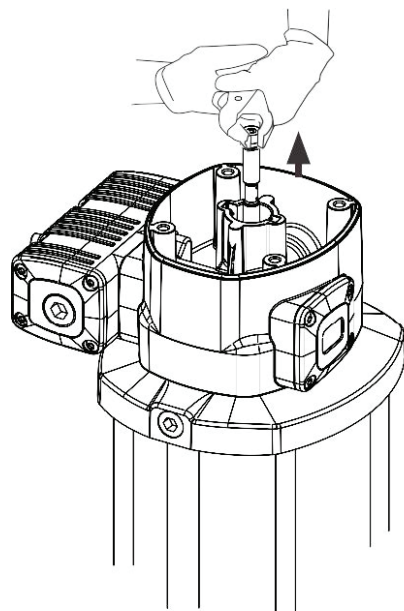
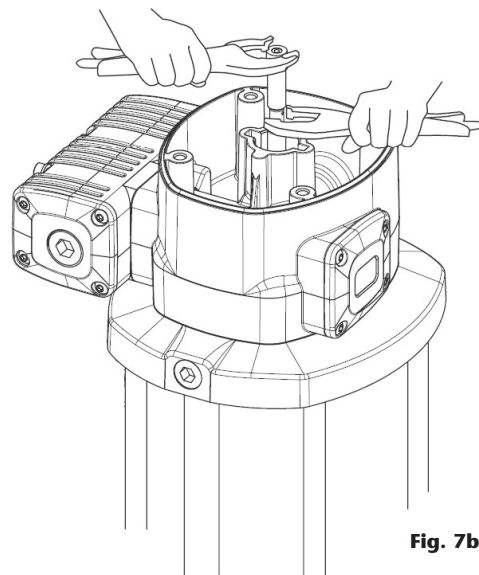

Fig. 7a
Fig. 7b
1. Unscrew bolts (2) and remove cap (3).
2. Unscrew the sensor sleeve (4).
3. With a manual clamp on the nut (5), pull the rod on the air piston assembly (37) outwards until its central recess appears (fig. 7a). Then, with another manual clamp, grab said rod on said recess to prevent its sealing surface to be damaged, and unscrew the nut (5) (fig. 7b).
4. Remove O-ring (6) and ring (7), and replace them with new ones later.
5. Unscrew bolts (44). Pull the motor head (13) upwards to free it along with flange (34).
6. Take away the gasket (8) and replace its seals (9) and (10).
7. Unscrew 5 bolts (35) and split motor head (13) from the flange (34). Take away the washer (30) and replace the seal (10).
8. Take away the cylinder (40) while carefully holding the air piston (37). Replace the piston seal (36).
9. Reassemble in reverse order, applying thread locker in screws (35), nut (5) and sensor sleeve (4).